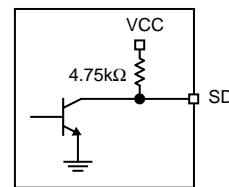

Figure 5. SD Output Structure
The SY88823V incorporates a chatter-free, signal detect (SD) open-collector TTL output with internal 4.75kΩ pull-up resistor as shown in Figure 5. SD is used to determine that the input amplitude large enough to be considered a valid input. SD asserts high if the input amplitude rises above the threshold set by SDLVL and de-asserts low otherwise. SD can be fed back to the enable (EN) input to maintain output stability under a loss of signal condition. EN de-asserts low the true output signal without removing the input signals. Typically, 4.6dB SD hysteresis is provided to prevent chattering.